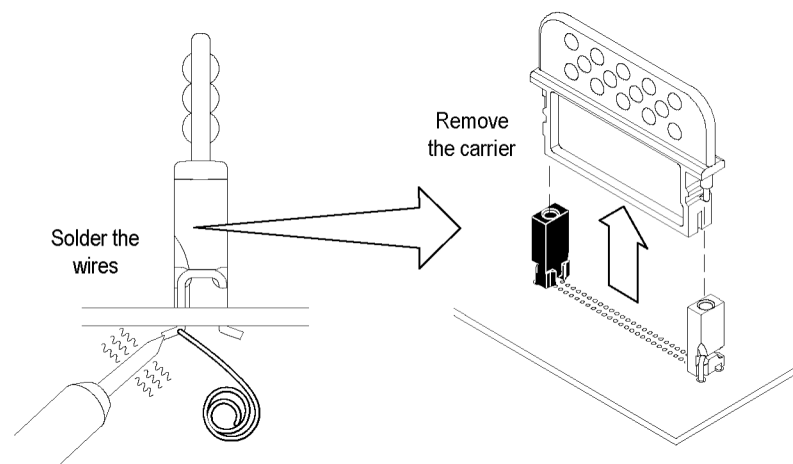

Figure 28: Soldering the retention posts on the PCB
4. Solder the posts to the PCB. (See Figure 28.) The posts can be soldered from the top or bottom of the circuit board, but it is best to solder the bottom to avoid the heat-sinking effects of the posts on top.